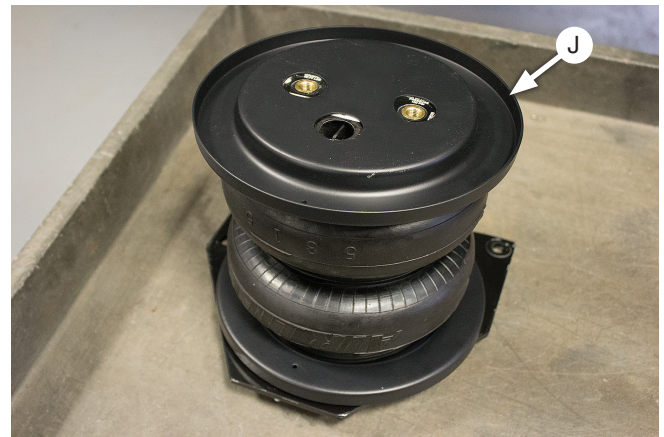

Fig. 9
- Flip the assemblies over and set roll plates (J) onto the bottoms of the air springs as shown in Fig. 9.